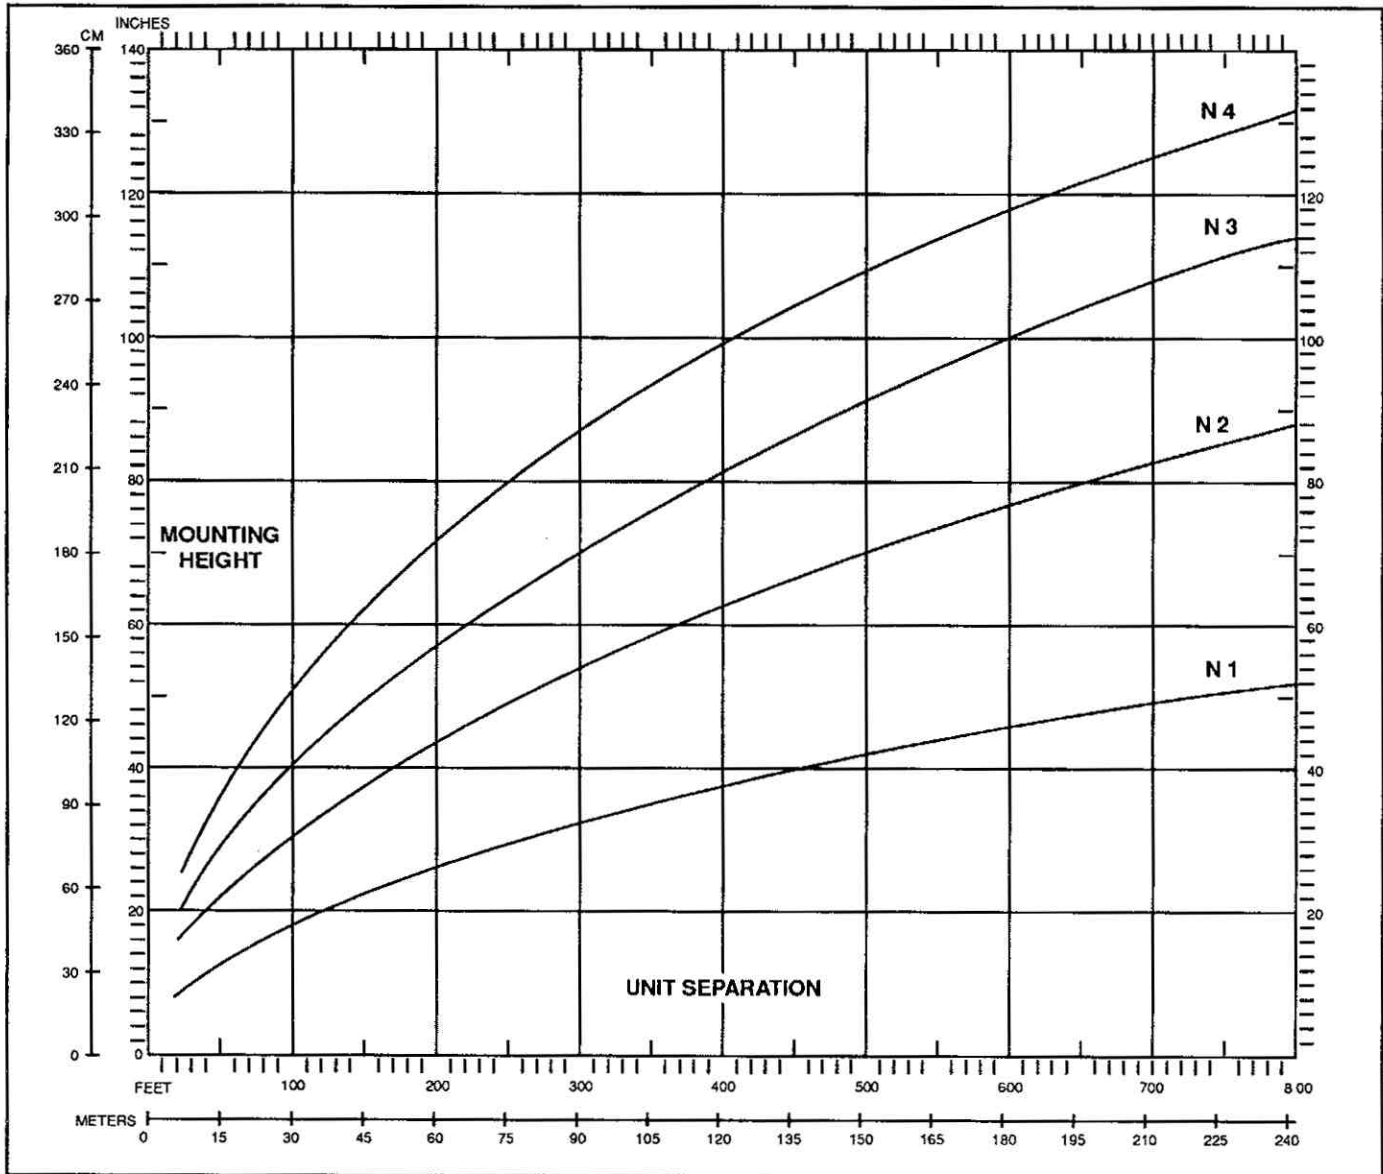

Figure 5: In-Phase Installation Mounting Height.
- b. Install the receiver and transmitter on their respective posts, using the pipe clamps and hardware provided. Mount the units at the approximate height above the ground indicated by the height chart (Figure 5); physically point them toward each other, and slightly tighten the clamp nuts so the unit will not fall. Slightly loosen the four antenna mounting bolts that secure the parabolic to the enclosure, and again point the units towards each other. This is a preliminary effort only; a more detailed mechanical alignment will be accomplished as part of the alignment procedure.
The height chart (Fig. 5) is used to determine the optimum (theoretical) mounting height (measured from the center of the antenna to ground). Mounting height versus distance plots that fall on one of the inphase node curves (N1, N2, N3 and N4) are preferred because they will result in higher signal strength at the receiver (lower AGC, hence a wider fade margin). As an example, suppose the distance between the transmitter and receiver is 400 ft., using the height chart, the best mounting heights are 38" or less (N1 curve and below), 63" (N2 curve), 82" (N3 curve) or 99". Areas between the node